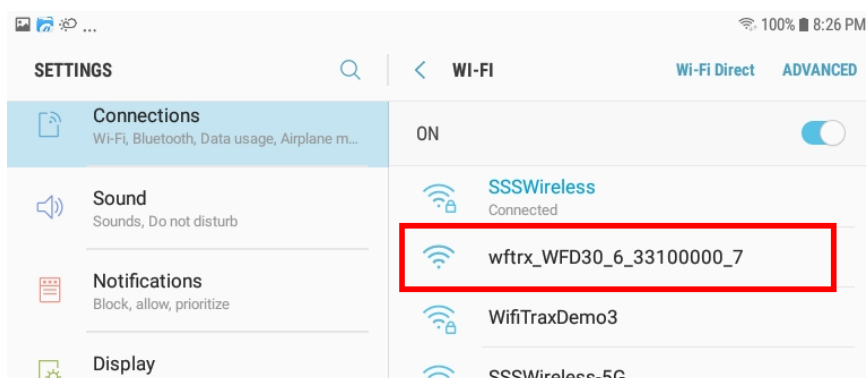
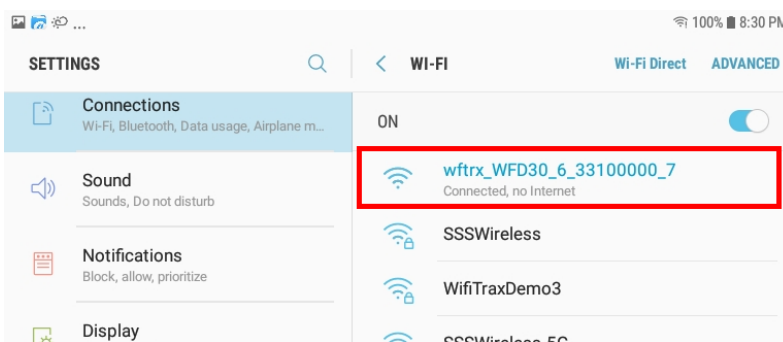

Figure 15 WFD-30 Wi-Fi Access Point is visible
Figure 16 Connected to the WFD-30 Wi-Fi Access Point
- (6) You now see a collection of available Wi-Fi Access Points. Look for one that is of the form wftrx_WFD30_6_XXXXXXX_7, where XXXXXXXX is the serial number of your unit that appears on its bag and the unit itself, like Figure 15. Tap that Wi-Fi Access Point – no password is required – and wait for it to connect. You will not be able to access the internet while you are connected to the Wi-Fi access point of the WFD-30 but consult the manual later to see how you can put everything on your home network. After a few moments the Access point should show “Connected, no internet” as Figure 16